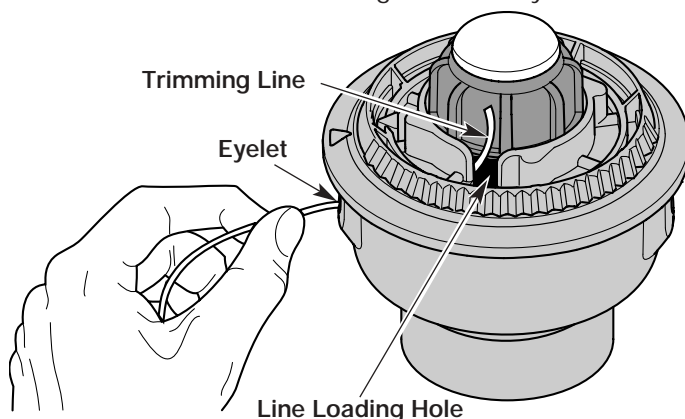

Fig. 47
3. Pull old line out of the line loading and line locking holes (Fig. 47 and 48).
4. Insert a piece of trimming line straight into one of the two eyelets in the outer spool. Push it up through the line loading hole in the inner reel (Fig. 47). Do not bend the line when inserting it into the eyelet.